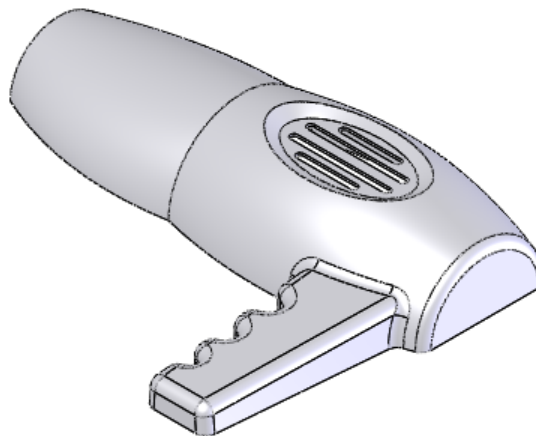

Figure 1-161 Final model
3. Next, choose the **OK** button from the **Thicken PropertyManager**; the final model is displayed, as shown in Figure 1-161.